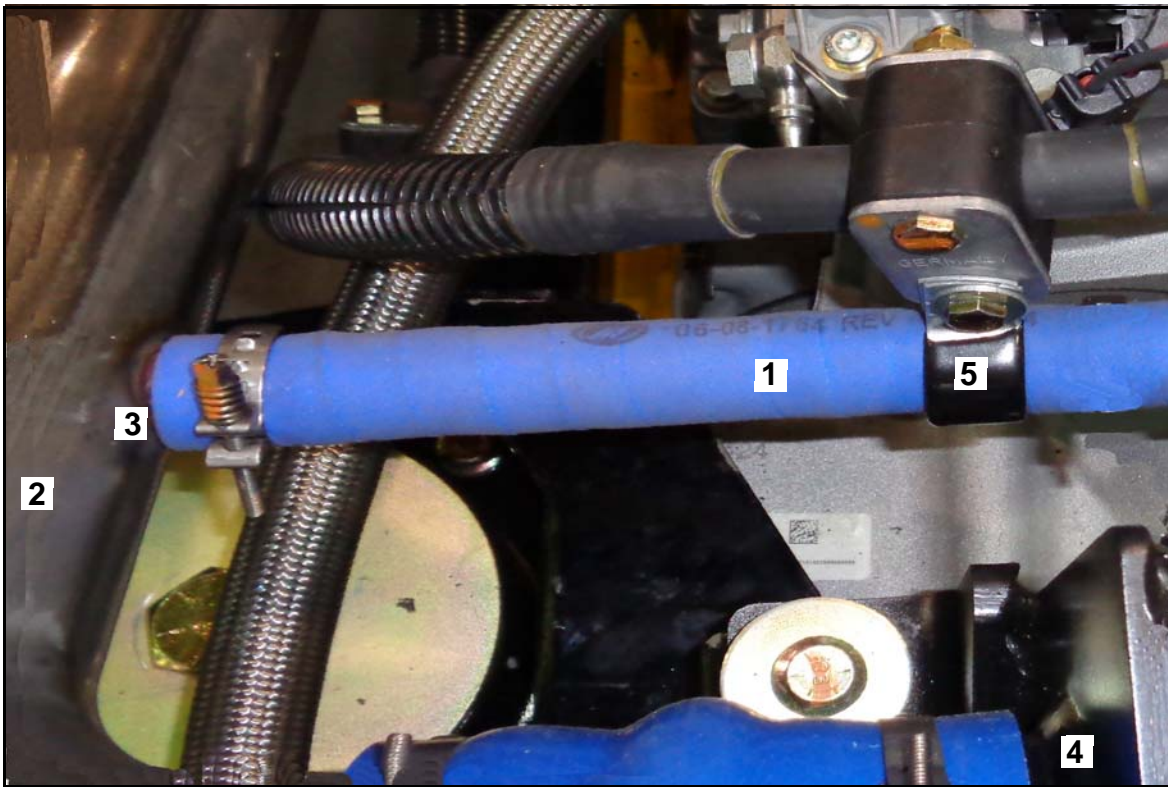

Figure 3.
8. Locate the coolant hose (refer to Item 1 / Figure 3).
9. Locate the coolant hose line clamp (refer to Item 5 / Figure 3). Remove and retain the line clamp and mounting hardware.
10. Using a marker and tape measure, mark a line at the 9.50 and 14.00 inch point using Item 3 / Figure 3 as the starting point.
13. Re-install the coolant hose line clamp (refer to Item 5 / Figure 3).